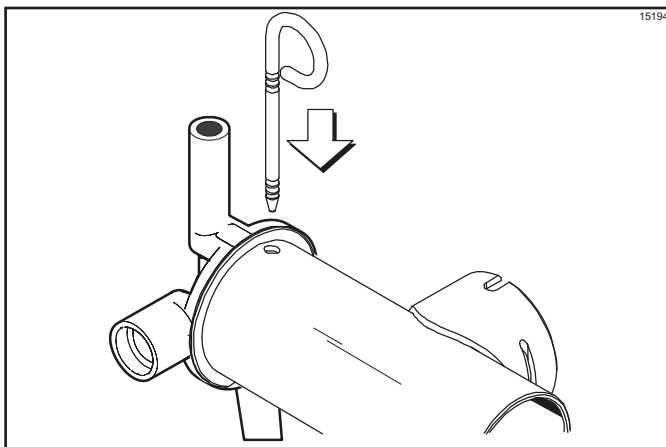

Figure 6-28
9. Secure the pump parts in position by sliding the retaining pin through the cross holes located at one end of the pump cylinder. (See Figure 6-28.)